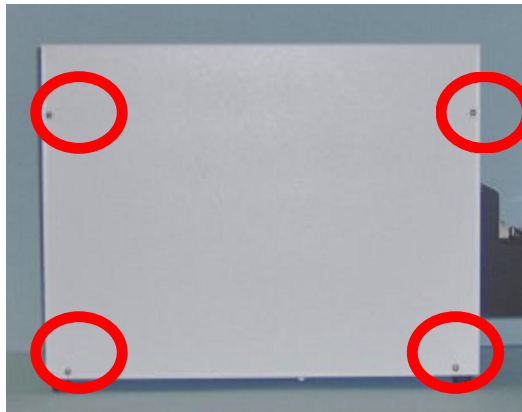

FIG 6.1
- Open the cover of Xdc-96pro and remove screws (Fig 6.1/6.2)